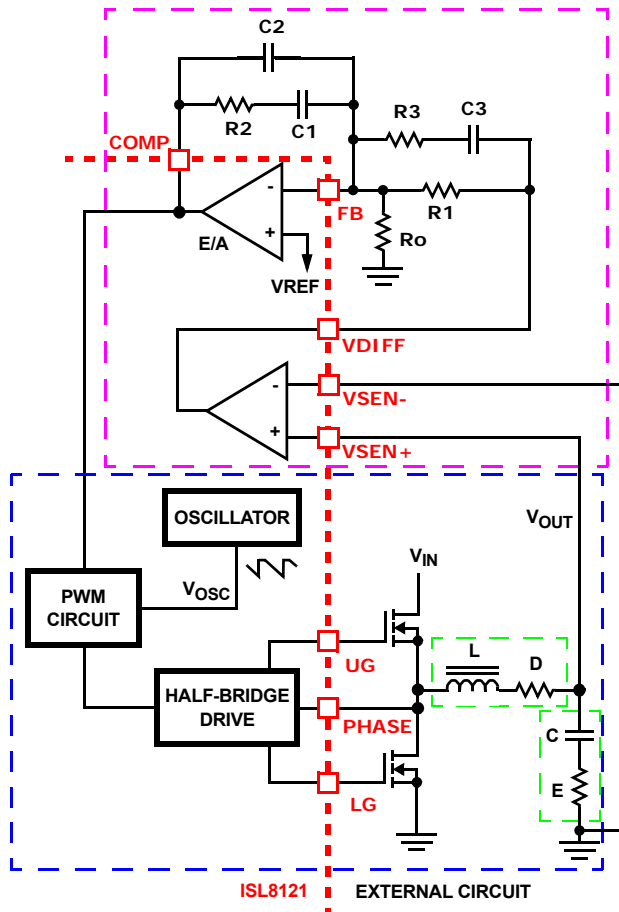

FIGURE 24. VOLTAGE-MODE BUCK CONVERTER COMPENSATION DESIGN
Figure 24 highlights the voltage-mode control loop for a synchronous-rectified buck converter, applicable, with a small number of adjustments, to the multi-phase ISL8121 circuit. The output voltage (V_{OUT}) is regulated to the reference voltage, V_{REF} , level. The error amplifier output (COMP pin voltage) is compared with the oscillator (OSC) modified saw-tooth wave to provide a pulse-width modulated wave with an amplitude of V_{IN} at the PHASE node. The PWM wave is smoothed by the output filter (L and C). The output filter capacitor bank's equivalent series resistance is represented by the series resistor E.
1. Select a value for $R1$ ($1k\Omega$ to $5k\Omega$, typically). Calculate value for $R2$ for desired converter bandwidth (F_0). If setting the output voltage via an offset resistor connected to the FB pin, R_o in Figure 24, the design procedure can be followed as presented. However, when setting the output voltage via a resistor divider placed at the input of the differential amplifier, in order to compensate for the attenuation introduced by the resistor divider, the obtained $R2$ value needs be multiplied by a factor of $(R_p + R_s)/R_p$. The remainder of the calculations remain unchanged, as long as the compensated $R2$ value is used.